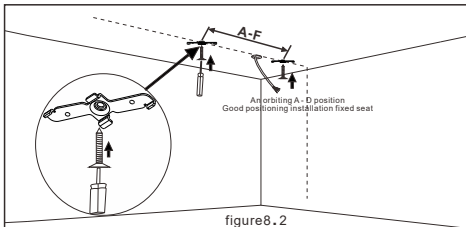

figure8.2
2. The installation area in orbit tool tag line, on the measuring mark size, installed orbit fixed clasp, and good power outlet holes;(figure8.2)